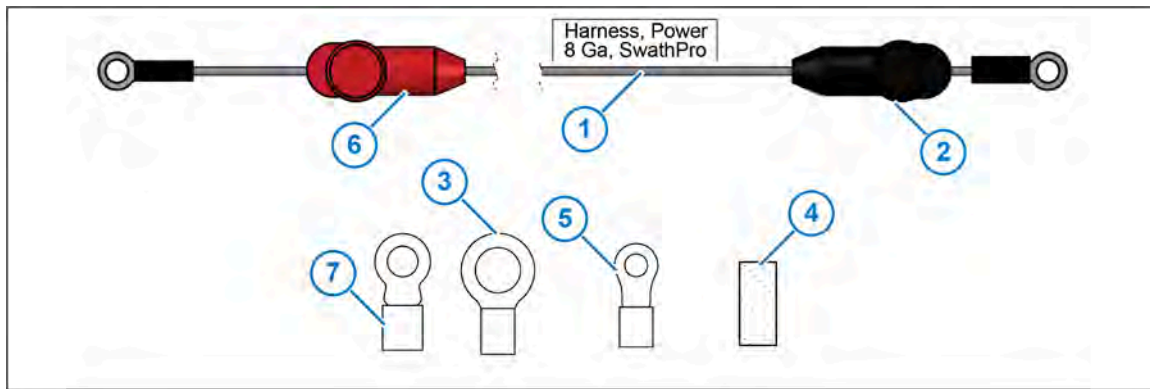
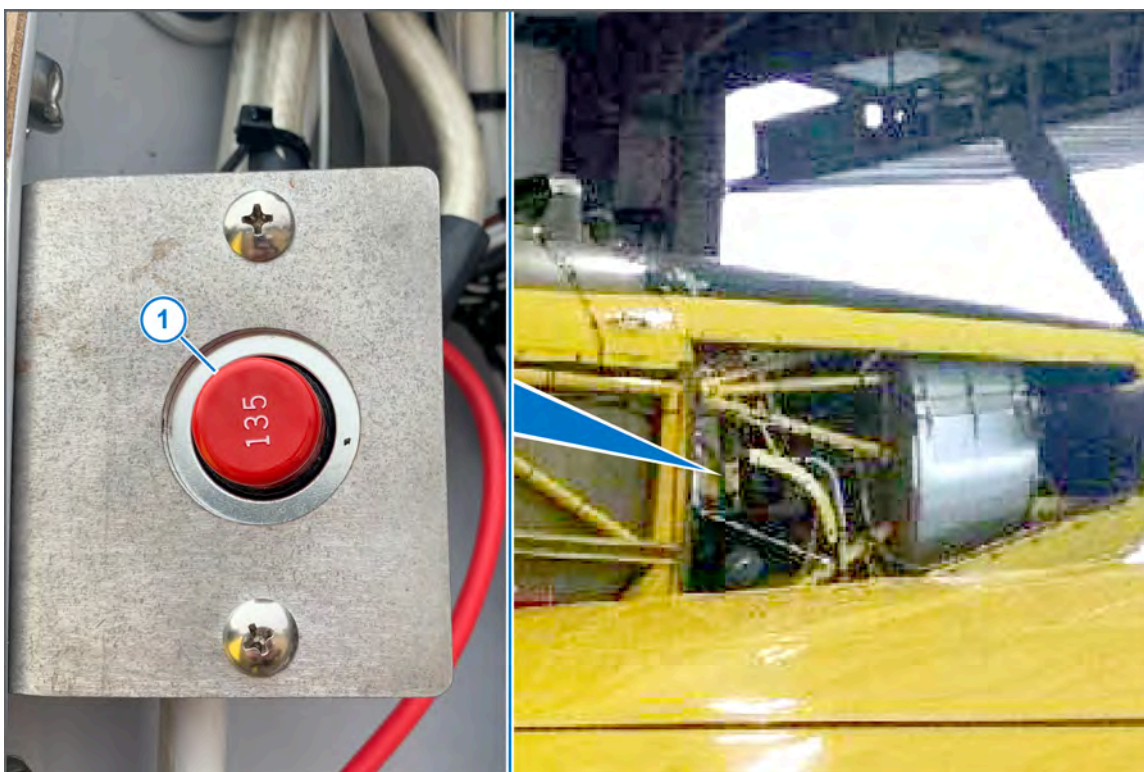

Figure 23: Power Harness
Figure 25: Master Circuit Breaker
1. Measure and cut the *power harness* (Figure 23, Item 1) from the black boot (Figure 23, Item 2) to the correct length of harness to reach from the ground lug on the Gateway hub to an existing grounding point below the cockpit.
See Figure 23
2. Install a shrink tube (Figure 23, Item 4) and crimp a ring terminal (Figure 23, Item 3) to the opposite end of the harness from the black boot.
5. From the bare end of the *power harness* (Figure 23, Item 1), measure the length of harness needed to reach from the 50A circuit breaker to the master circuit breaker (Figure 25, Item 1). The master circuit breaker for your type of aircraft may be different than the one shown.
6. Cut the correct length of harness and install the shrink tube (Figure 23, Item 4) and crimp the ring terminals (Figure 23, Item 5) to each end of the harness.
Parts from the Fuselage Kit, shown in Figure 23
9. Measure and cut the *power harness* from the red boot (Figure 23, Item 1) to the correct length, to reach from the 50A circuit breaker in the cockpit to the power (+) terminal on the Gateway hub.
10. Install a shrink tube (Figure 23, Item 4) and crimp a ring terminal (Figure 23, Item 3) to the opposite end of the harness from the red boot.